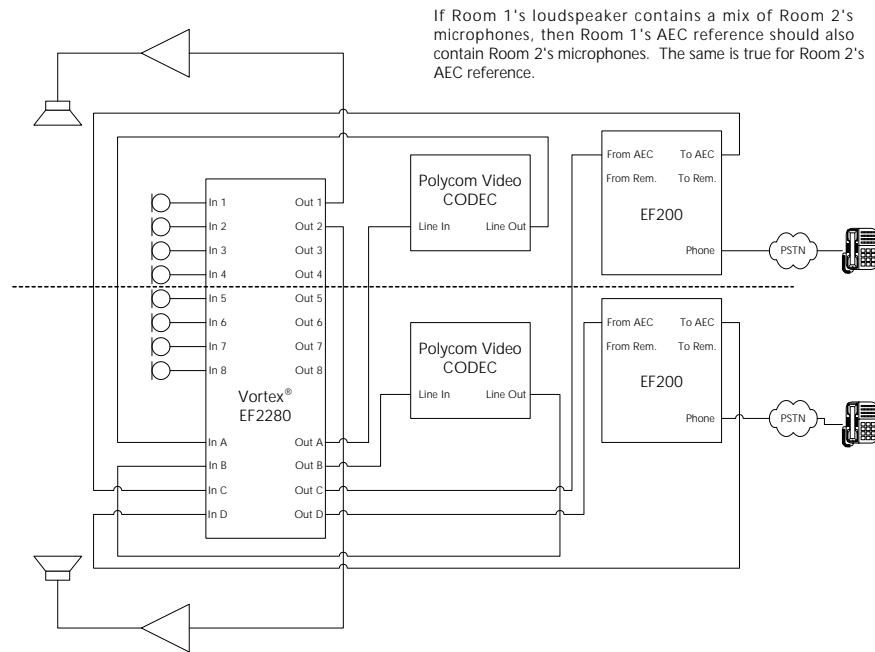

Figure 11. AEC reference for two rooms that communicate with each other with one EF2280.
- An exception to this rule is when you use one EF2280 split to operate independently in two rooms. If the two rooms communicate with each other (along with communicating via codec and the phone line), the reference in the first room must contain the microphones from the second room and vice versa. See Figure 11 below.